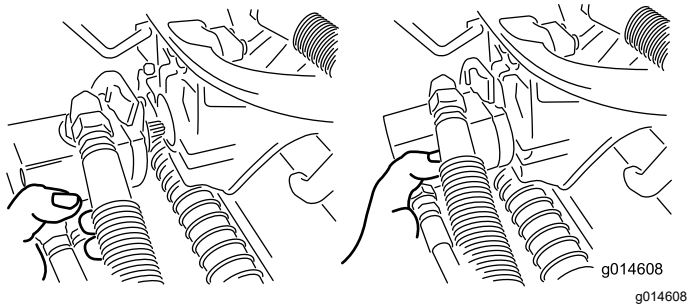

Figure 56
3. Move the motor to the storage location on the front of the suspension arm (Figure 56).